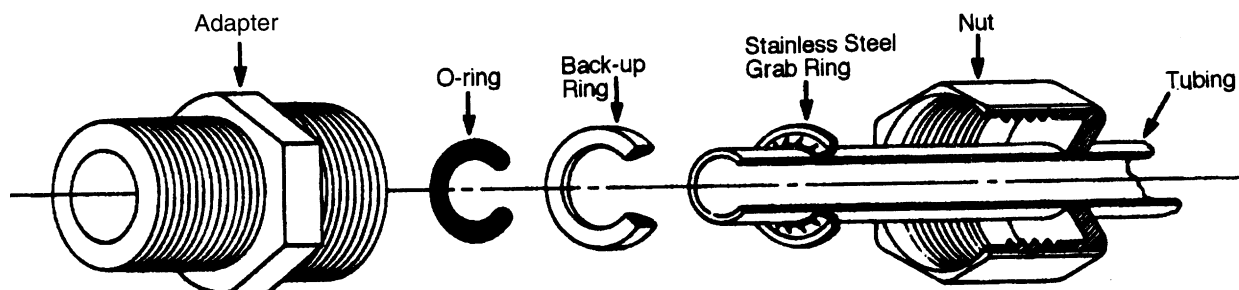

Figure 3-16. Typical Polypropylene Tubing Adapter Installation
2. Install the tubing adapter onto your incoming water line (Figure 3-16). We recommend a customer supplied shut off valve be installed in your feed water line.